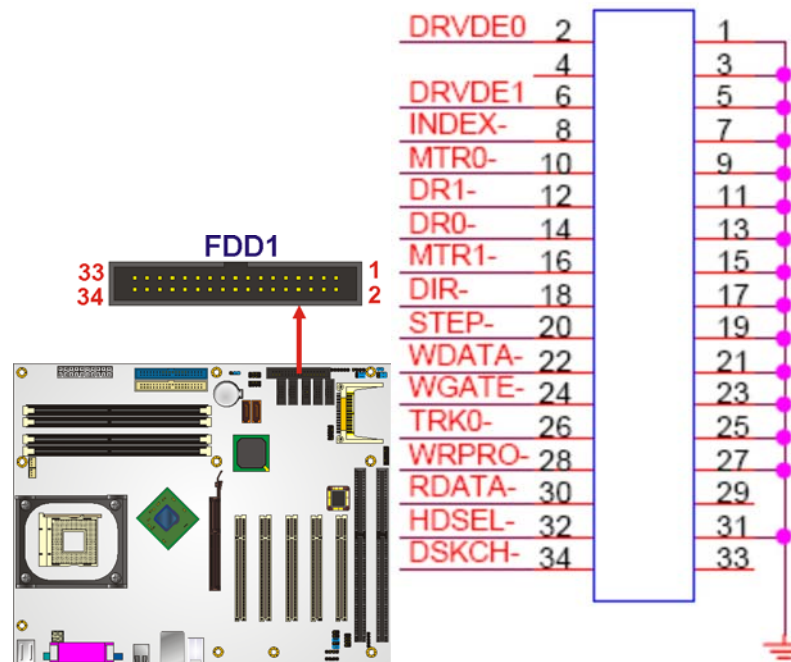

Figure 4-11: FDC Connector Location
- CN Location:** See **Figure 4-11**